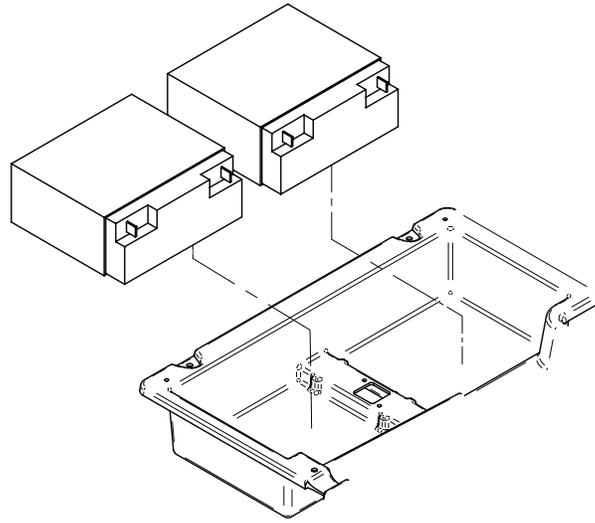

Figure 64 – Batteries
6. Unplug the power cord from the wall outlet and turn battery switch **OFF** (0). The bed should now have no power.
8. Lift up on both batteries and stand them upright (Figure 64).